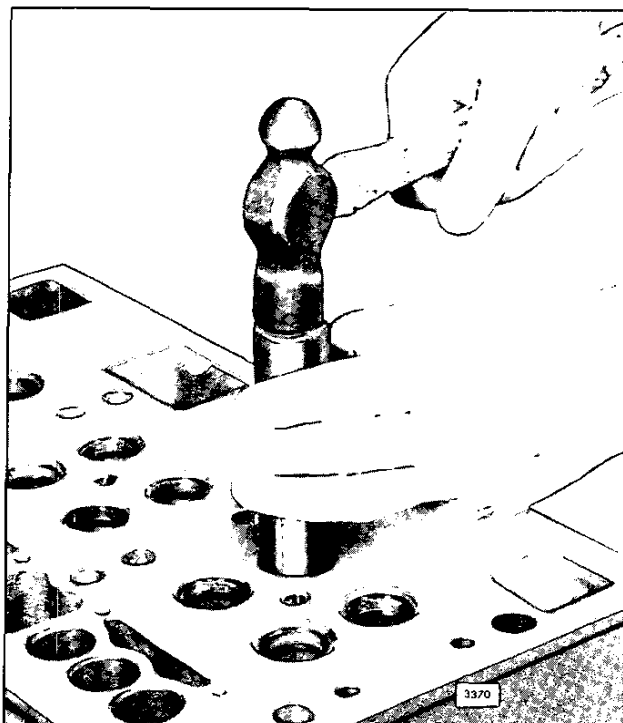

Fig. 10 – Installing Valve Seat Insert
5. Drive the insert in place with installer J 6976 (two-valve head) or J 7790 (four-valve head) – (Fig. 10) until it seats solidly in the cylinder head.